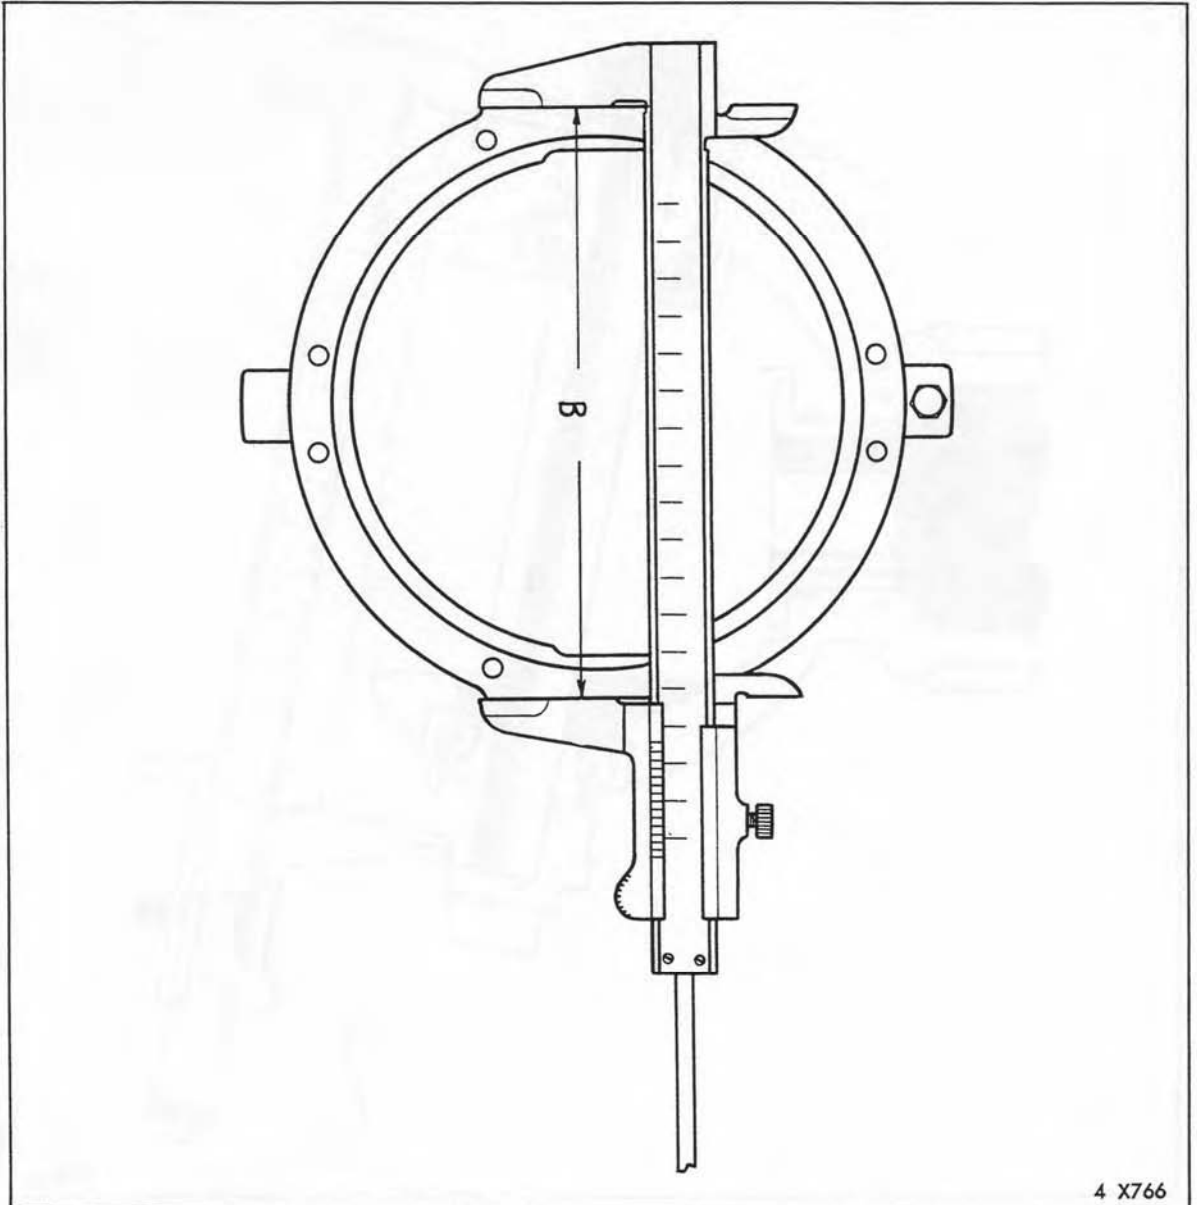

Fig. 5-6 Measuring Height of Steering Knuckle
5. Measure and record the height (B) of the steering knuckle using a vernier caliper as shown in Fig. 5-6.